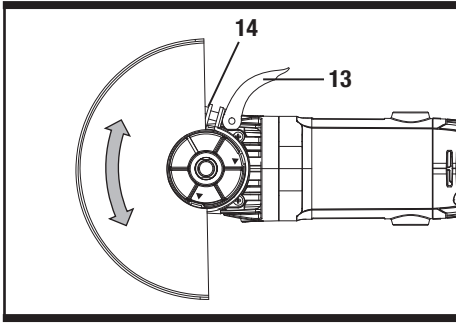

Fig.A1
13. Guard Clamping Lever (See Fig. A1)
14. Clamp Adjustment Nut (See Fig. A1)